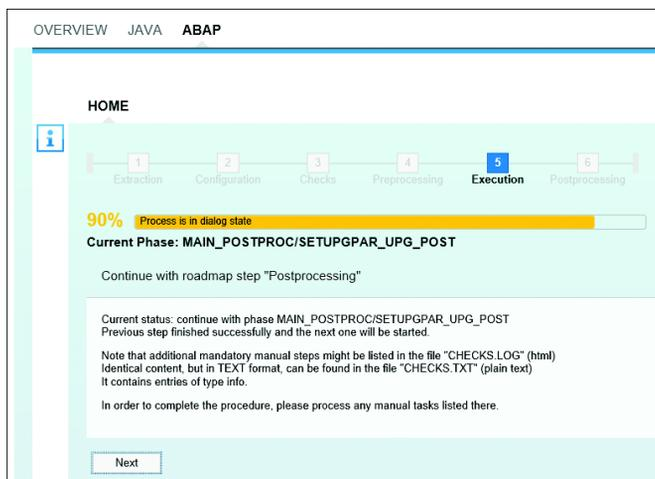

Figure 81 End of Execution Phase
21. As done previously, check the checks.log file for any manual steps. When ready, select NEXT to continue (see Figure 81). This will start the post Java side processing phase.